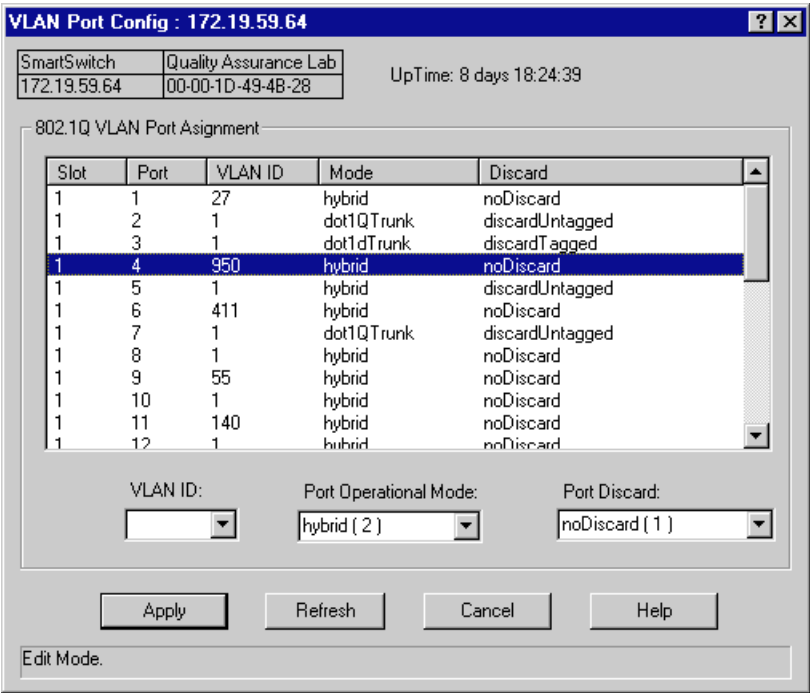

Figure 2-23. The VLAN Port Config Window
After your VLANs are defined, you may configure the ingress and egress lists for each port using the VLAN Port Config window (Figure 2-23) and the VLAN Egress Port Config window (Figure 2-24), respectively.
2. Click on **802.1Q VLAN**, and then select **802.1Q VLAN Port Config**. The VLAN Port Config window, Figure 2-23, opens.